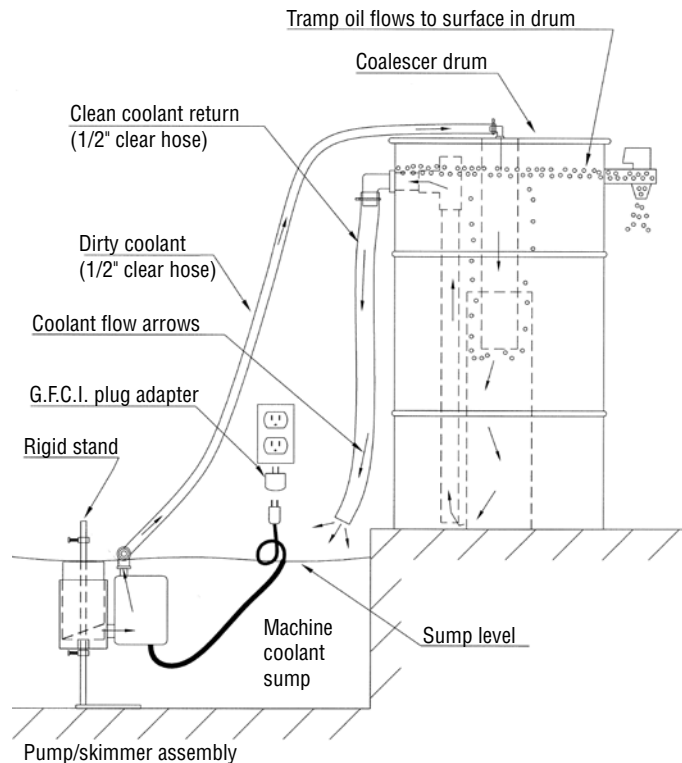

FIGURE 2
4. Elevate the coalescer drum to a point above the machine tool sump so that clean coolant can gravity flow out of the drum through the 1" clear hose and back into the sump. (No more than 2' above the skimmer assembly.) (See Figure 2 for further clarification.) Do not allow the discharge hose to be submerged in the fluid or it will back up in the drum.
Before placing pump/skimmer assembly into the sump, adjust the skimmer height so that the skimmer base is approximately 1-1/4" below the coolant level in the sump. (See Figure 2 for clarification.)